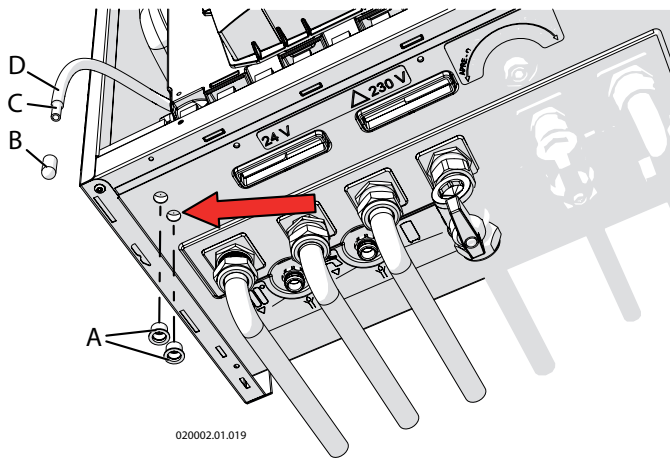

Figure 6.9 - Combustion agent air pressure point
- 4.- remove the caps "A" (see figure 6.9);
- 5.- take the flexible hose "D", which is found inside the appliance and remove the cap "B" (see figure 6.9);
- 6.- insert the pipe "D" inside the hole indicated by the arrow in figure 6.9;
At the end of the control, remove the tube "E", close the holes indicated by the arrow using the previously-removed caps "A", close the pipe "D" using cap "B" and close the pressure point "H" again as in figures 6.9 and 6.10.